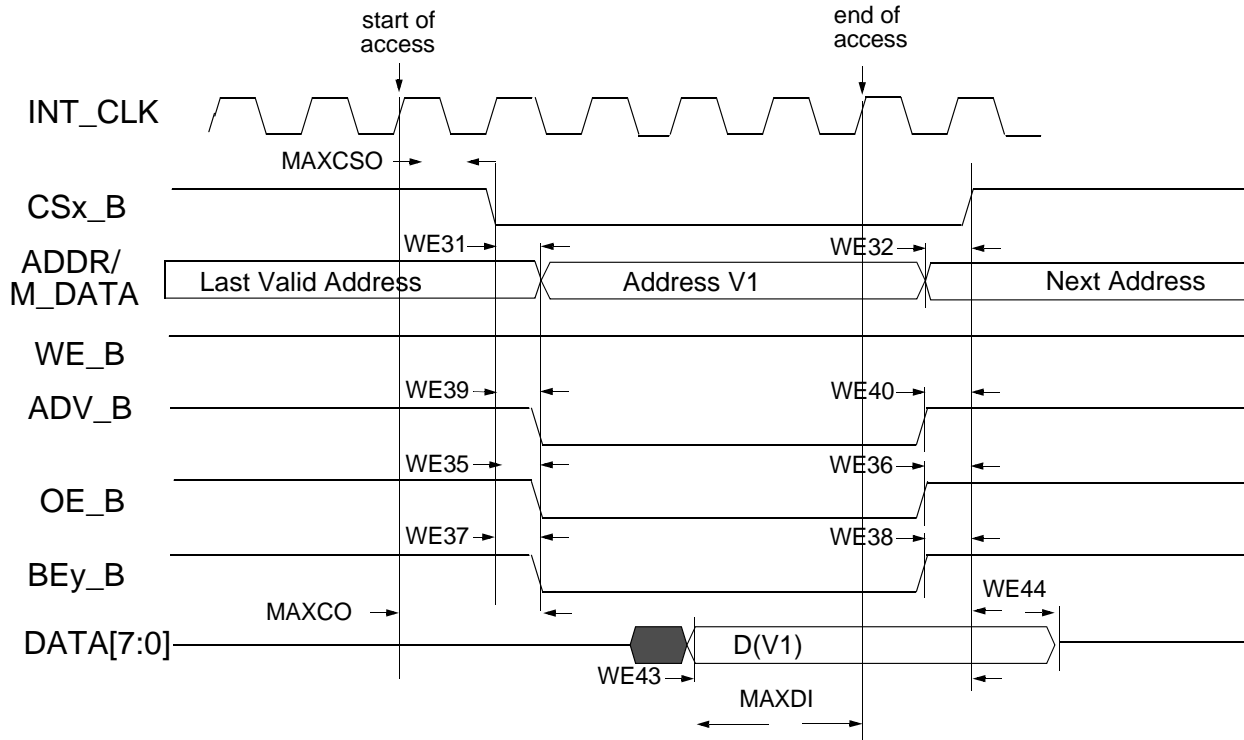
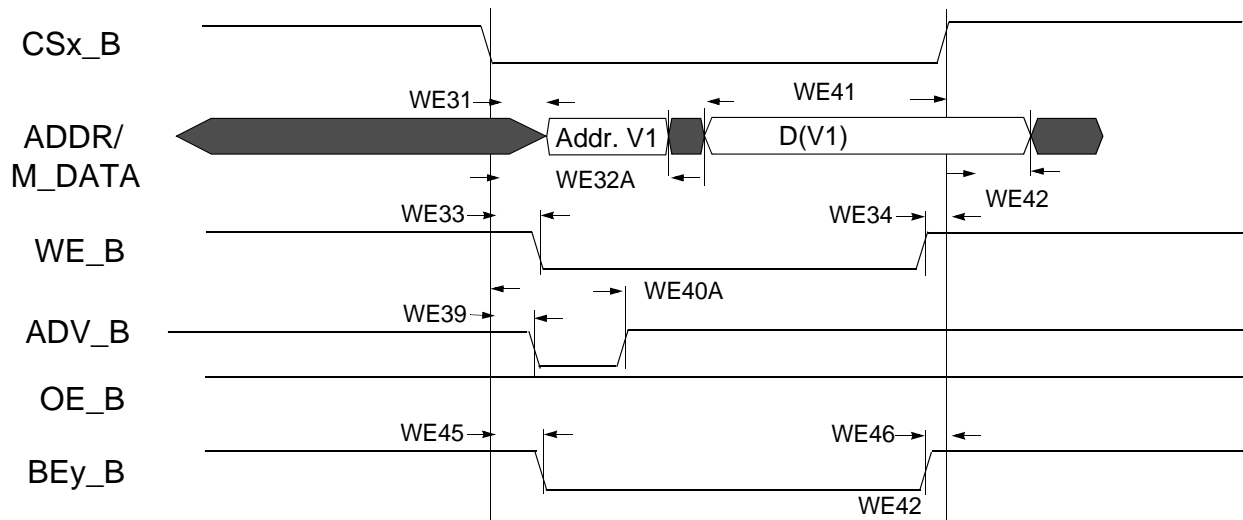
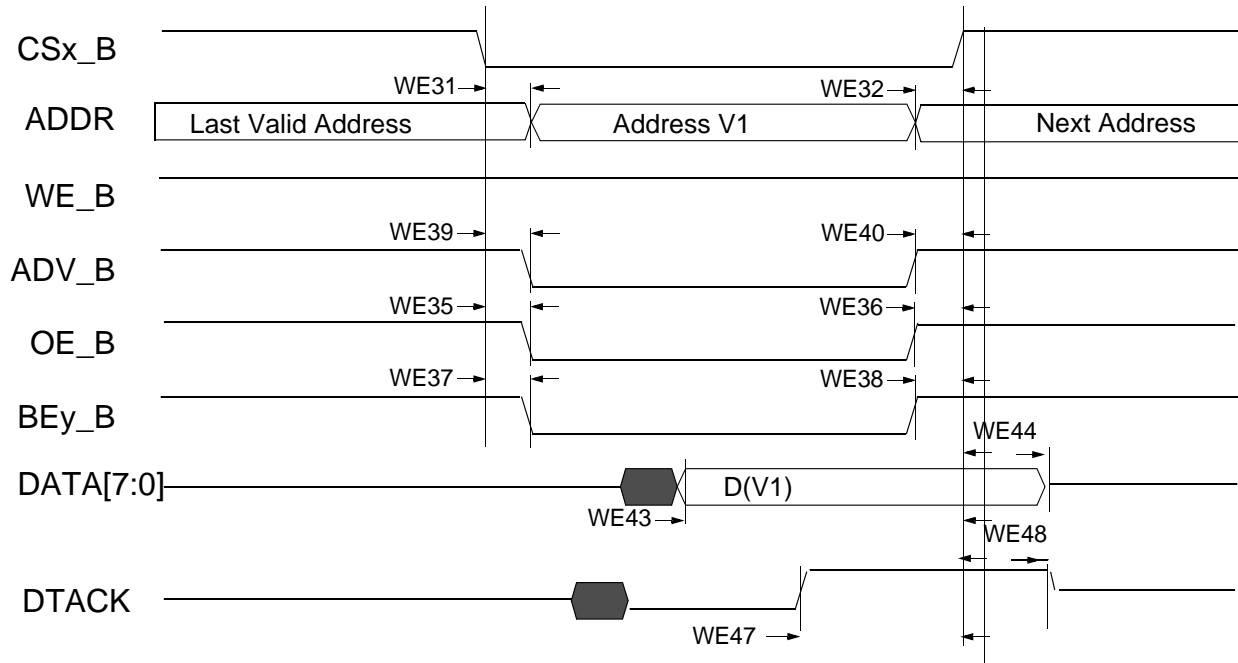

Figure 15. Asynchronous Memory Read Access (RWSC = 5)
Figure 18. Asynchronous A/D Muxed Write Access
Figure 19. DTACK Read Access (DAP=0)
Figure 15 through Figure 19, and Table 43 help you determine timing parameters relative to the chip select (CS) state for asynchronous and DTACK EIM accesses with corresponding EIM bit fields and the timing parameters mentioned above.
Asynchronous read & write access length in cycles may vary from what is shown in Figure 15 through Figure 18 as RWSC, OEN & CSN is configured differently. See the i.MX 6Dual/6Quad reference manual for the EIM programming model.